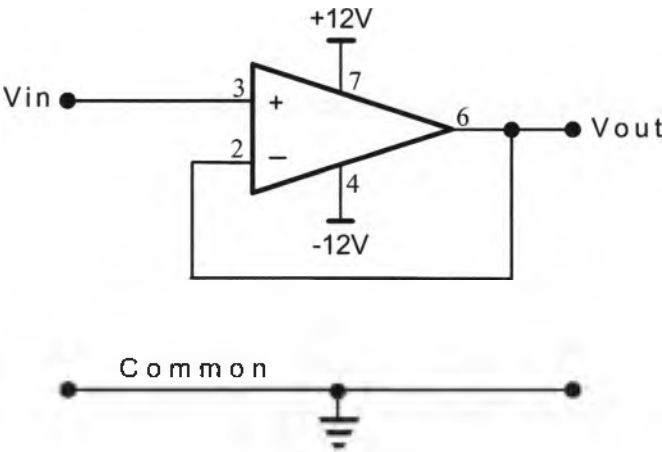

Figure 3
30. Dismantle the non-inverting amplifier and connect the circuit of Figure 3.